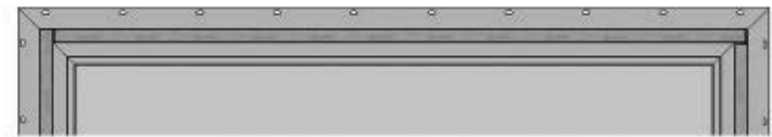

FIG. 3
- D) Wrap jamb extension around the window as shown. (Fig 3)